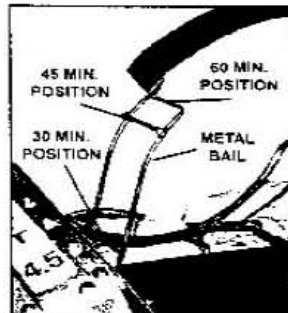

FIGURE 7
9. If a different duration rated cylinder is used, it is necessary to attach the cylinder band to a different position on the wire bail as shown in Figure 7.
- i. To re-attach a breathing regulator equipped with a quick disconnect to the respirator: (See Figure 7)